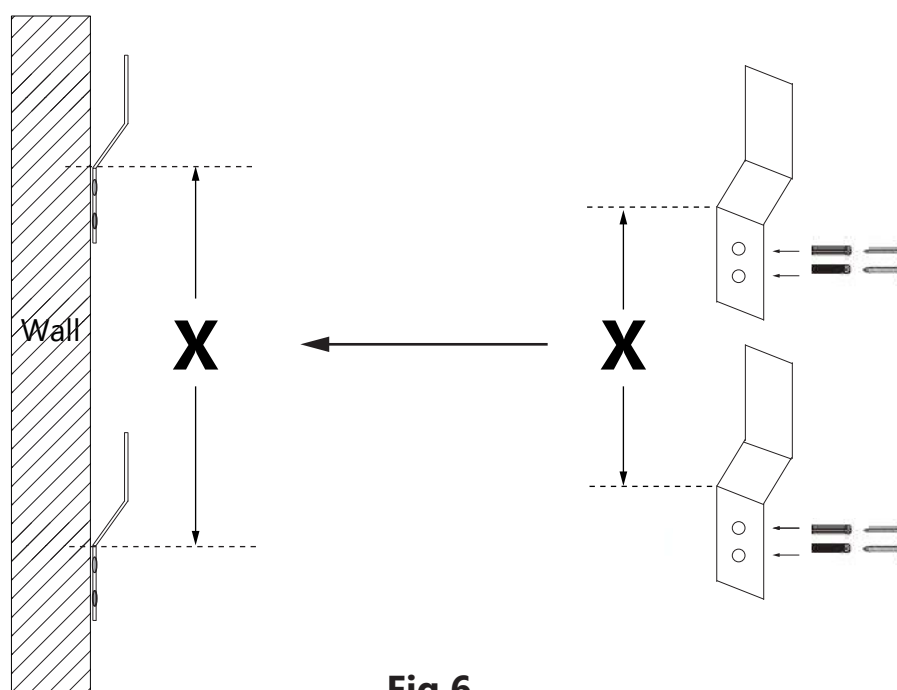

Fig 6
6. Place the **Support Brackets (#02)** just below the lines you just made on the wall, with the bend of the brackets lying on the marks. Mark your screw holes. Drill the holes using a $\varnothing 5/16"$ drill bit. Insert the wall anchors and use the included screws to attach the **Support Brackets (#02)** to the wall. (**Fig 6**)